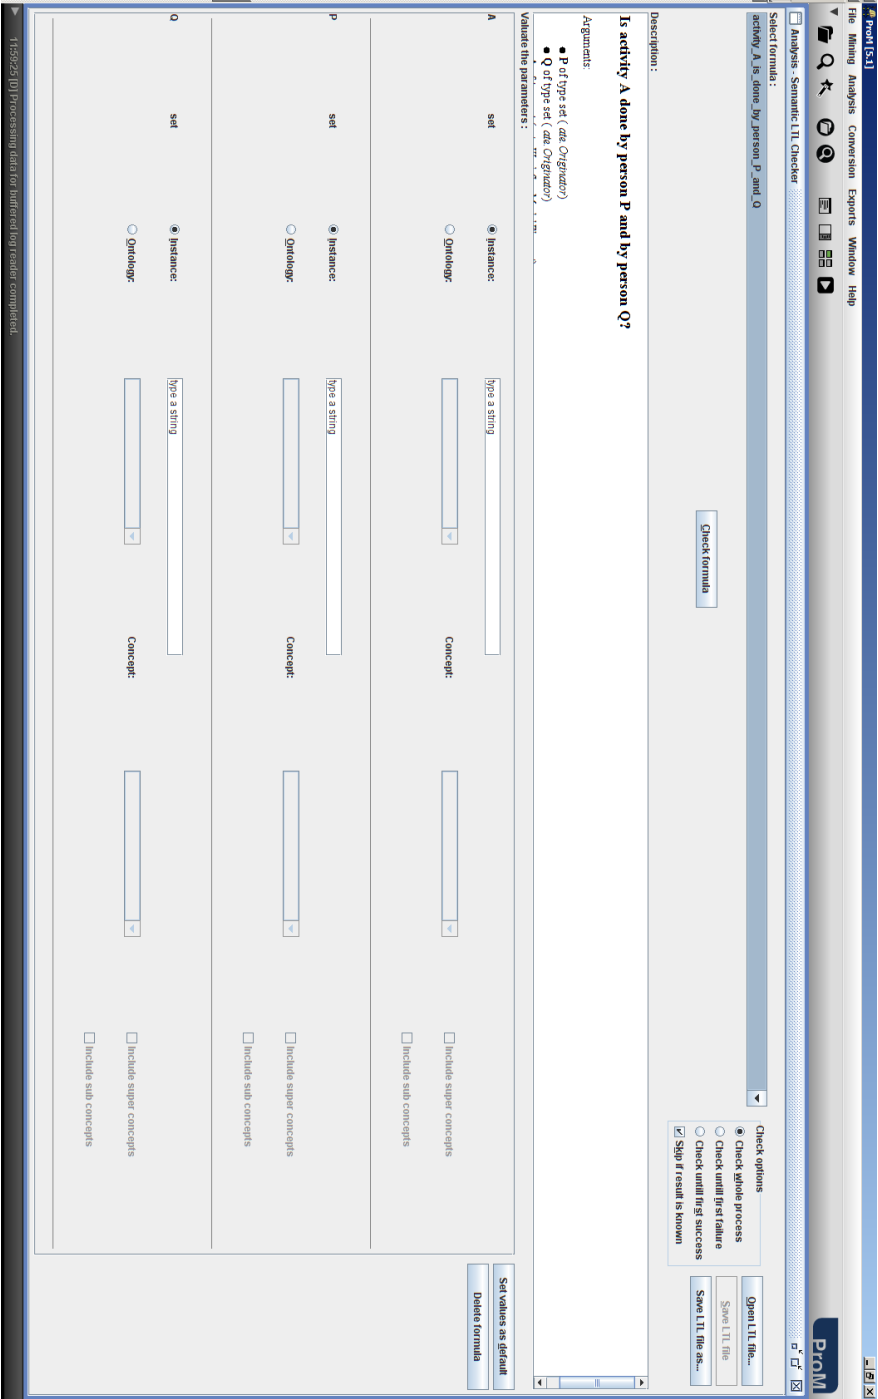

Figure 3.7: Screenshot of the analysis plug-in *Default LTL Checker Plugin*.
2. Run the *Default LTL Checker Plugin* by selecting the menu option *Analysis → Filtered [log name...] (Simple filter) → Semantic LTL Checker Plugin*. You should get a screen like the one in Figure 3.7.